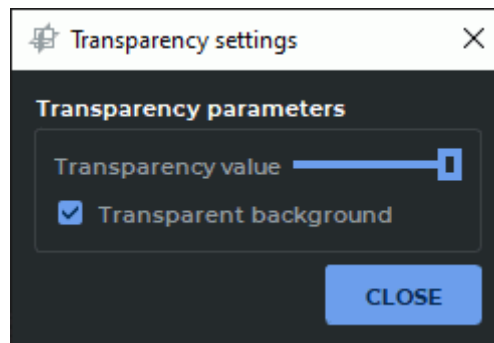

Figure 5.19: Dialog box for setting cutting planes transparency
**Transparency settings.** In the dialog box that pops up (Fig. 5.19), move the slider to set up the planes transparency. The extreme right position equals maximum opacity. The maximum opacity level is set by default.